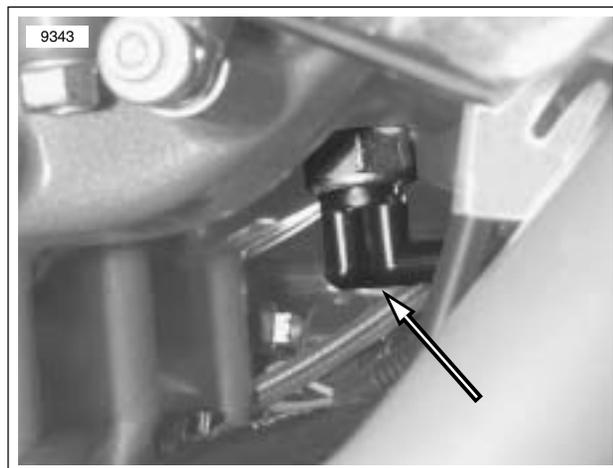

Figure 2-17. Neutral Light Sender Connectors [131]
55. See Figure 2-17. Pull connectors to neutral light sender [131] under drive sprocket.
11. See Figure 2-17. Push on neutral light sender wires.